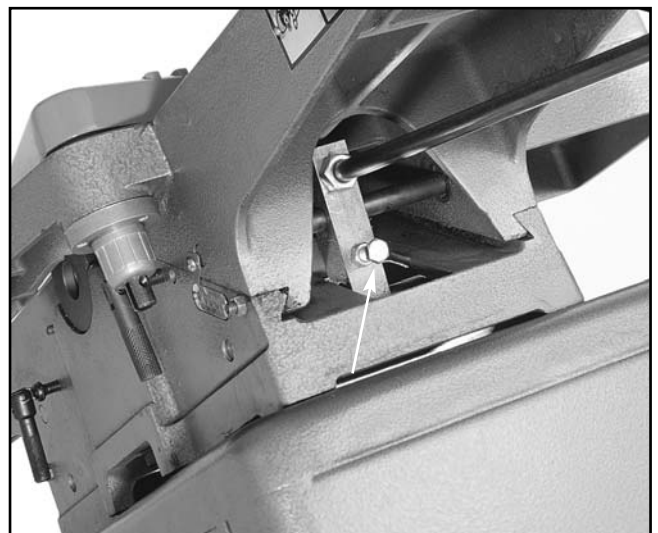

Figure 19. Location of the infeed table stop bolt and jam nut.
1. Loosen the jam nut and unscrew the table stop bolt out 3 or 4 turns. **See Figure 19.**